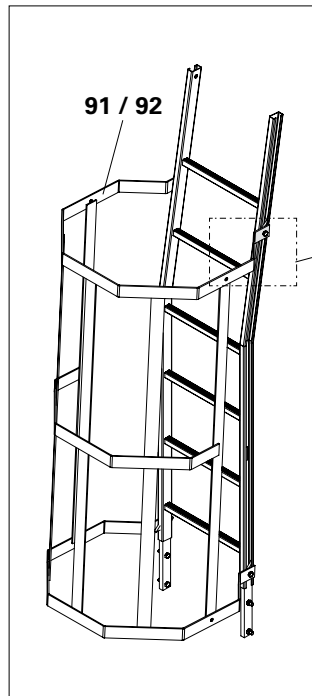

Fig. B5.13
1. Bring and hold Ladder Safety Cage (91) in position using a rope.
2. Slightly loosen bolts M12 x 25 (4x) on the clamping plate (91.1), position clamping plate on the ladder rail, turn and tighten bolts. (Fig. B5.13)